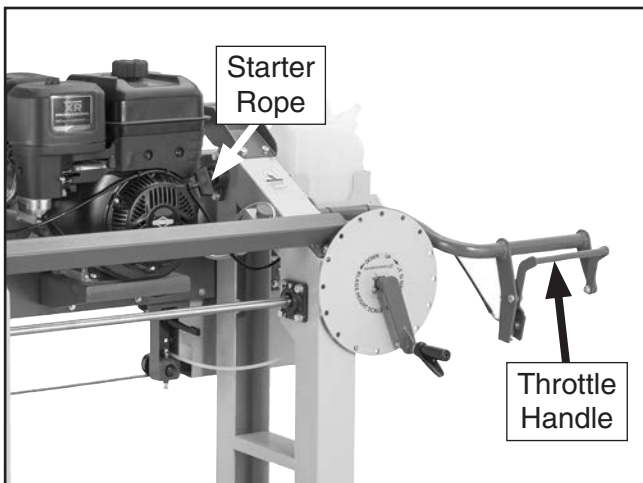

Figure 23. Engine starting controls.
7. Squeeze throttle handle, pull starter rope slowly until you feel resistance, then pull starter rope rapidly to start engine (see **Figure 23**). Verify engine starts and runs smoothly without any unusual problems, leaks, or noises.